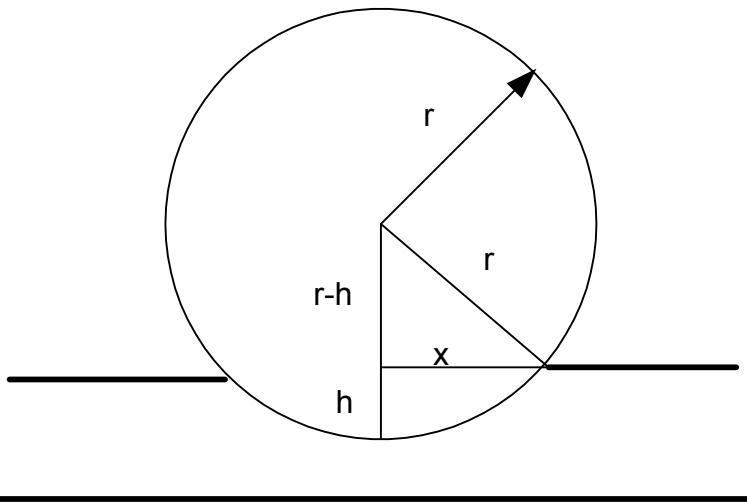

Figure 3: Dimensions of sphere.
Note for $0 < h < r$, the above moment arm for N_v was obtained from **Figure 3**, which results in equation (4).
where the moment arm for N_v was obtained from **Figure 3**.